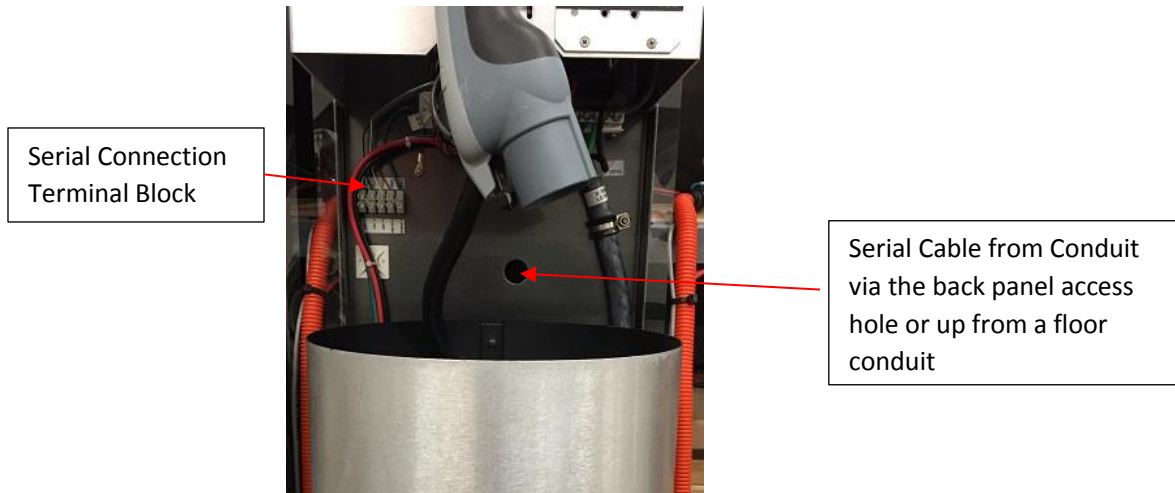

Figure 8
There are 4 mounting-screw holes in the rear frame of the 3704 EVSE, two at the top and two at the bottom. Using the mounting hole pattern depicted (**Figure 8**), drill pilot holes if necessary. Ensure the hole pattern is plumb and level. **NOTE** – Conduit(s) enters through the bottom-center, conduit-access hole.
1. Feed the Module communication cables for EVSEs from the ground into the conduit inside the mounting pole. The cables will exit the conduit into the back of each 3704. For a wall-mounted 3704, feed the cable up from the access hole to the right of the Serial Connection Terminal Block (**Figure 8**).